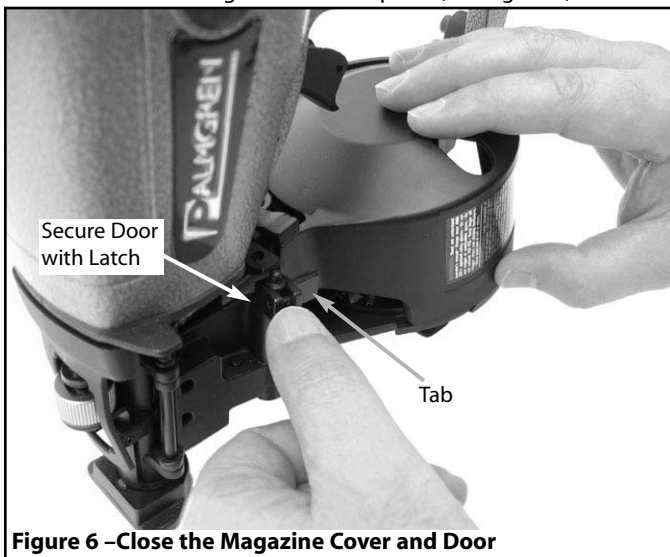

Figure 6 –Close the Magazine Cover and Door
- Carefully close the magazine cover first. Then close the door and secure in position with the latch. Make sure the tab in the door holds the magazine cover in place (see Figure 6).